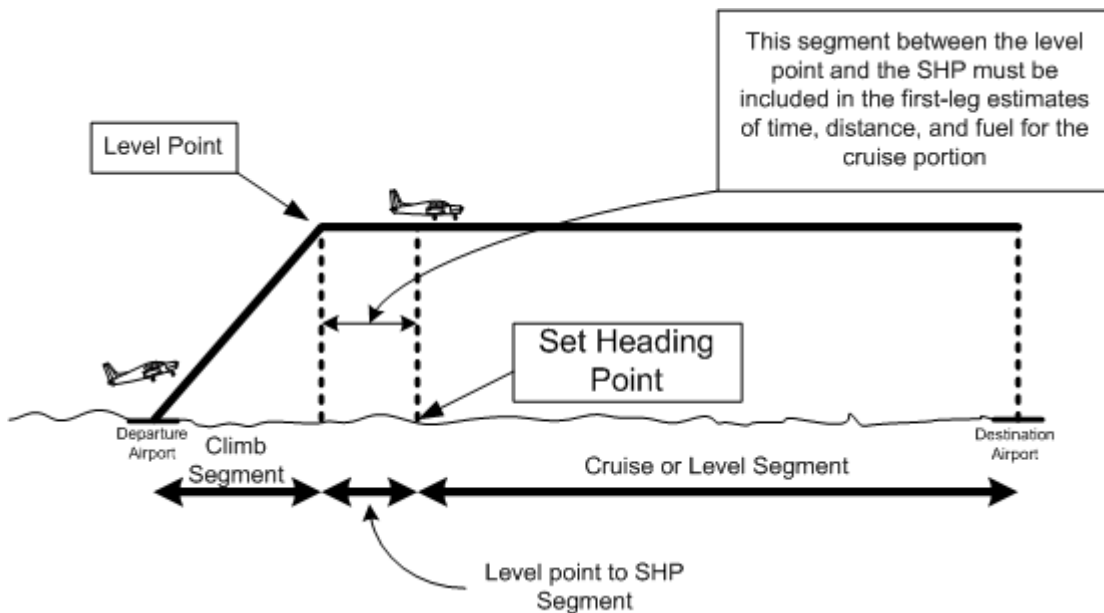

Figure 1, Level Point.
- See Figures 1 and 2. (The TOC point is referred to as “Level Point” in Figure 1.)